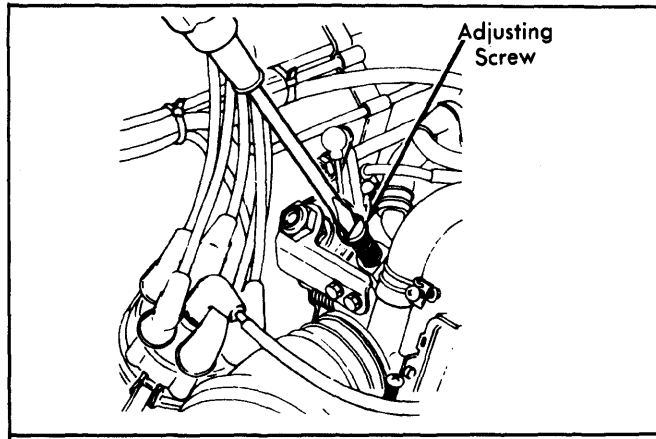

Fig. 3: Adjusting Idle Speed
2) If necessary, adjust idle speed by turning idle speed adjusting screw on throttle chamber. See Fig. 3. With idle speed correct, insert CO meter probe into exhaust pipe and measure CO% level. See applicable IDLE SPEED & CO% LEVEL SPECIFICATIONS table.